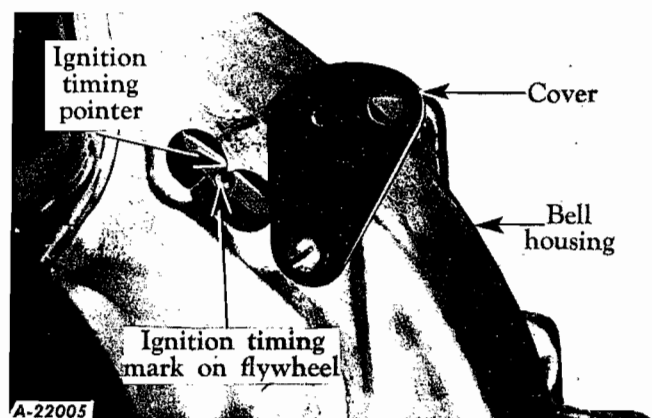

Fig. 75
3. **ADJUSTING VALVES.** To adjust valve stem to valve rocker arm clearance correctly, each cylinder must be on top-dead-center on its compression stroke at the time of adjustment of valves for that cylinder. To determine the correct position, turn the engine crankshaft until No. 1 piston is at top-dead-center on compression stroke and the ignition timing dot on the flywheel is in line with the pointer on the flywheel housing (Fig. 75). Adjust clearance on each valve of No. 1 cylinder to .018" to .020" by using a feeler gauge between valve stem and valve rocker arm and turn rocker-arm adjusting screw out of rocker arm until clearance is obtained. Tighten adjusting screw lock nut and recheck clearance. **(NOTE:** Valve clearance should be rechecked with engine at normal operating temperature.)